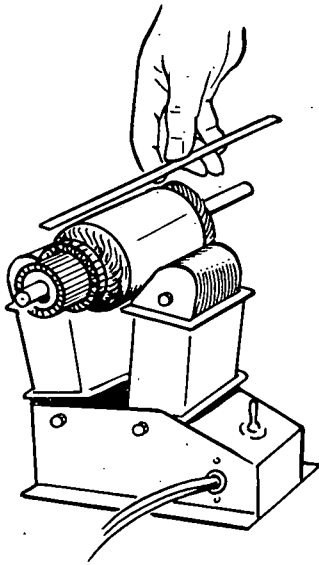

FIGURE 40. ARMATURE SHORT CIRCUIT TEST
1. **Testing Armature for Short Circuits.** Place the armature in a growler and hold a thin steel blade parallel to the core and just above it while slowly rotating the armature in the growler. A shorted armature will cause the blade to vibrate and be attracted to the core. Replace shorted armature. See Figure 40.